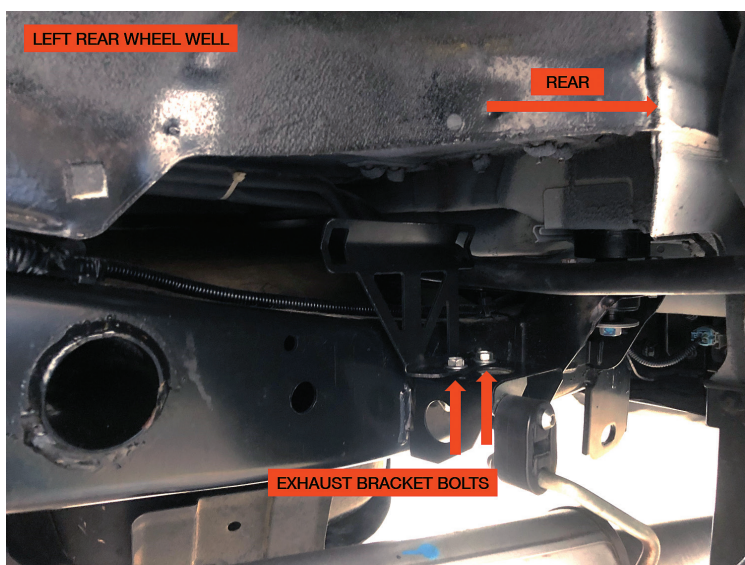

Figure 8: Left rear reservoir mounting bracket installed
4. Install the supplied remote reservoir mounting bracket for the left side by removing the two bolts from the exhaust holding bracket located towards the rear of the vehicle in the left rear wheel well, placing the supplied reservoir mounting bracket on top of the exhaust bracket and then reinstalling the bolts (Figure 8). Torque to OEM specifications.